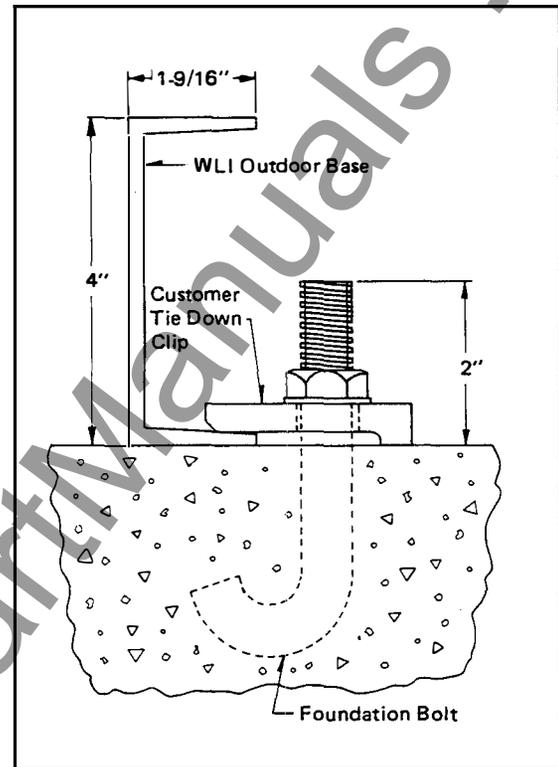

Fig. 8 Bolting WLI or WVB Unit to Foundation
3.7.2 Outdoor units are secured using clips and foundation bolts as shown Fig. 8. Lead anchors and lag screws may be used in place of J-bolts if desired.